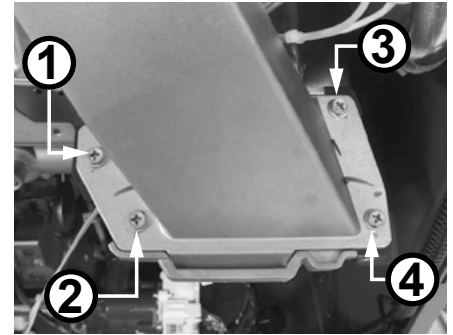

Figure 7 - Remove fan assembly screws
- 19** Locate the four (4) screws securing the fan assembly to the burner door assembly as shown in Figure 7. Use a Phillips screwdriver to remove the screws. Place the screws aside in a safe place for reinstallation.